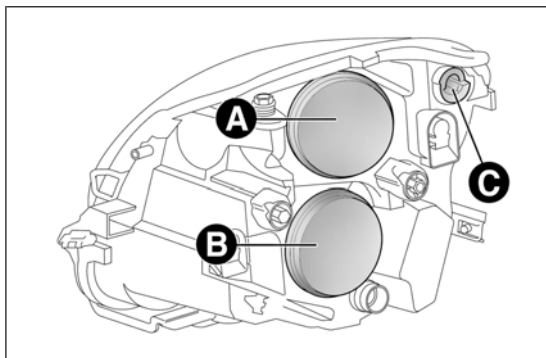

fig. 131
These contain the bulbs for the side lights/daytime running lights (DRL), dipped beams, main beams and direction indicators. The bulbs are arranged as follows fig. 131:
- remove cover A fig. 131;
- refit cover A fig. 131.
- ☐ remove cover B fig. 131;
- ☐ refit cover B fig. 131.